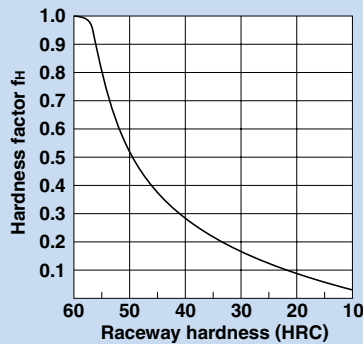

Fig. 1
- fH : Hardness factor (see Fig. 1)